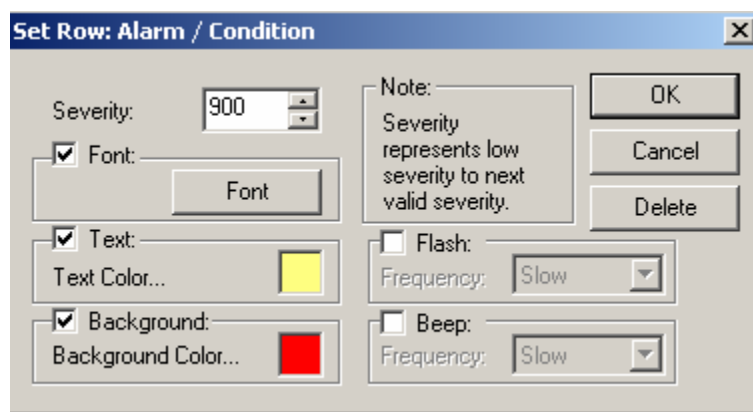

Figure 7.10. Alarm Row Configuration
3. Click on the **Configure** button. This opens the **Set Row** dialog box, as shown in **Figure 7.10**. Here you can change the **Font**, **Colors**, **Flash**, and **Beep** parameters. Click **OK** when you are finished.